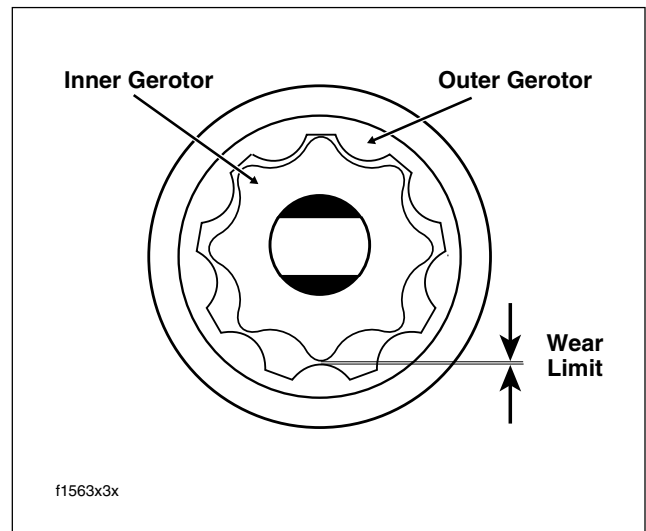

Figure 3-120. Measure Gerotor Sets for Wear
6. Mesh pieces of one gerotor set together as shown in Figure 3-120. Use a feeler gauge to determine clearance between tips of lobes on inner and outer gerotors. The maximum allowable clearance is 0.004 inch (0.10 mm). Replace gerotor set if clearance exceeds specification. Inspect second gerotor set in the same manner.